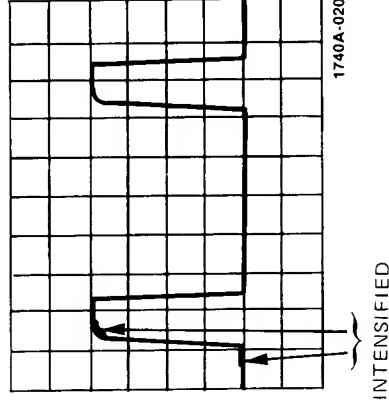

Figure 17a. Intensified Area On First Pulse
2. Set the **DLY'D TIME/DIV** control as required, and turn the **DELAY** control to place the intensified portion on the first pulse (see figure 17a).